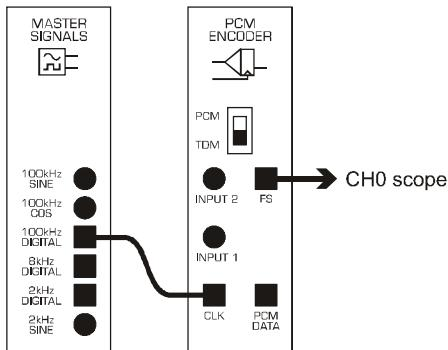

Figure 26: "adjust\_the\_PCM\_TDM" wiring diagram
1. Use patching cords to wire up DATEx blocks according to the wiring diagram in Figure 26.